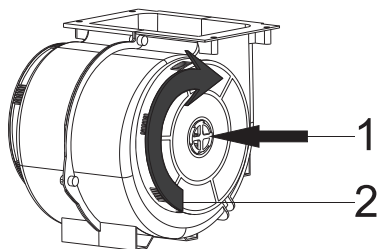

Fig. 6: AF 100 CARBON FILTER
- 1. Place the carbon filter in its housing. Fig. 6*
- 2. Rotate the carbon filter clockwise and make sure that it is seated completely. Fig. 6*